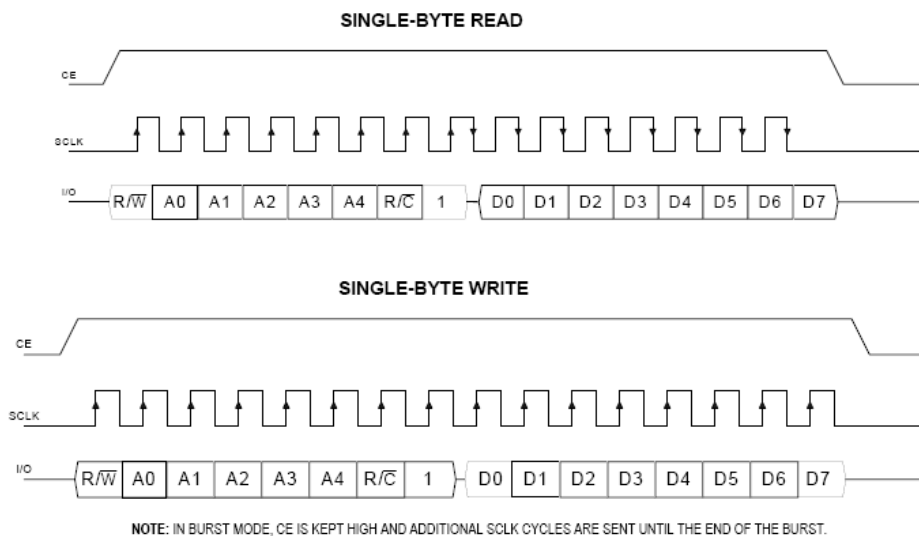

Figure 5. Data Transfer Summary (DS1302 Data Sheet).
- The serial transfer protocol shown in Figure 5 of the data sheet shows the following:
- To write data to the DS1302 you need to send a control byte followed by a data byte, as shown in Figure 5
- To read data to the DS1302 you need to send a control byte followed by a data byte, as shown in Figure 5